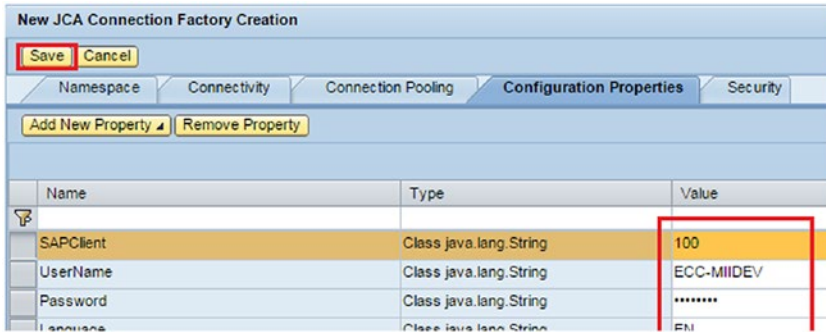

Figure 7-162. JCA Adapter properties configuration
9. Enter the following values for the JRA communication configuration (see Figure 7-162):